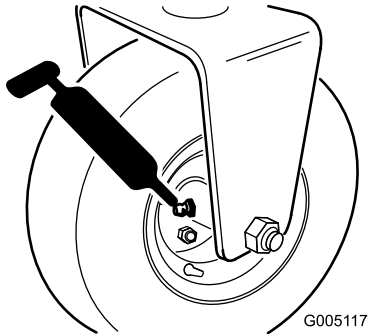

Figure 39
- Rear roller hub assembly or, if equipped with a 3-wheel drive kits, rear wheel roller clutches and external ball bearing (1) (Figure 39)